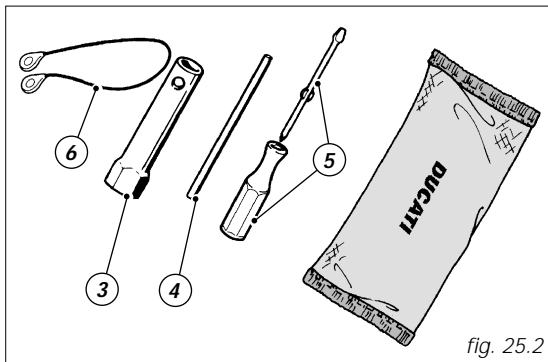

fig. 25.2
**The tool bag holds (fig. 25.2):**